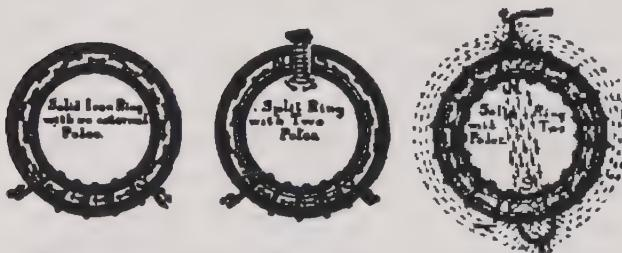

Fig. 101. Magnetic Polarity of an Iron Ring.
*Answer.* Yes. Make an electro-magnet of a ring of iron and a coil wound on as in Fig. 101 A. It will show no polarity at all, and be only slightly magnetic. Saw out a piece of the metal and the ring will develop polarity at N. and S. as shown in B.
*Question 29.* Why was there no polarity in Fig. 101 A?
*Question 30.* Why did Fig. 101 B show polarity?
*Question 31.* Why should Fig. 101 C develop poles at opposite sides of the ring and why should it show so much magnetism in the air around it?
Figs. 101 B and C show open circuits. In C the iron is a continuous ring but there are two magnetic circuits each composed of a half ring of iron and an air space across which the flux passes.
In Fig. 86 the addition of the second magnet gives a result something like that shown in Fig. 101 C. The flux from the two N-poles which passes between the magnets is very weak and does not magnetize the nails sufficiently. The greater part of the flux goes back outside of the magnets.